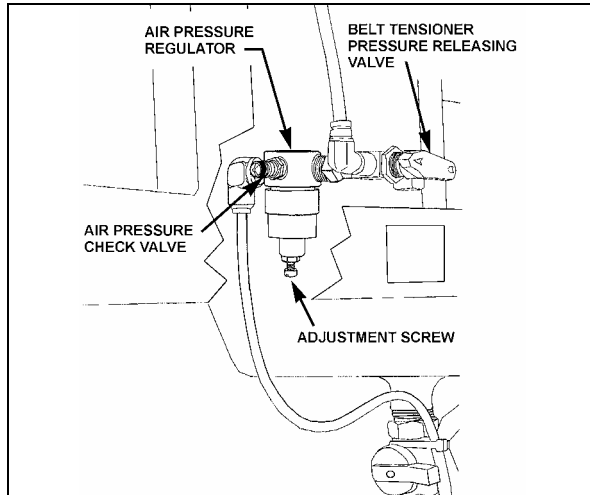

FIGURE 15: BELT TENSIONER VALVE 12200
4. Locate the belt tensioner pressure releasing valve (Fig. 15). Turn pressure releasing valve handle counterclockwise in order to release pressure in belt-tensioner air bellows and loosen belts. Remove the belts.